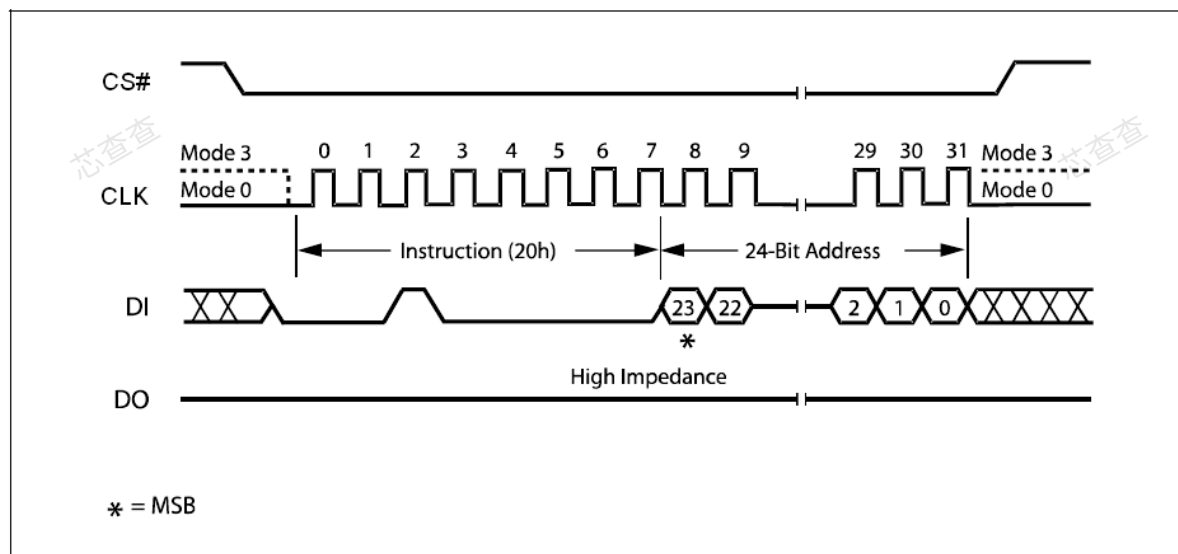

Figure 19. Sector Erase Instruction Sequence Diagram
The instruction sequence is shown in Figure 19. Chip Select (CS#) must be driven High after the eighth bit of the last address byte has been latched in, otherwise the Sector Erase (SE) instruction is not executed. As soon as Chip Select (CS#) is driven High, the self-timed Sector Erase cycle (whose duration is t_{SE}) is initiated. While the Sector Erase cycle is in progress, the Status Register may be read to check the value of the Write In Progress (WIP) bit. The Write In Progress (WIP) bit is 1 during the self-timed Sector Erase cycle, and is 0 when it is completed. At some unspecified time before the cycle is completed, the Write Enable Latch (WEL) bit is reset.